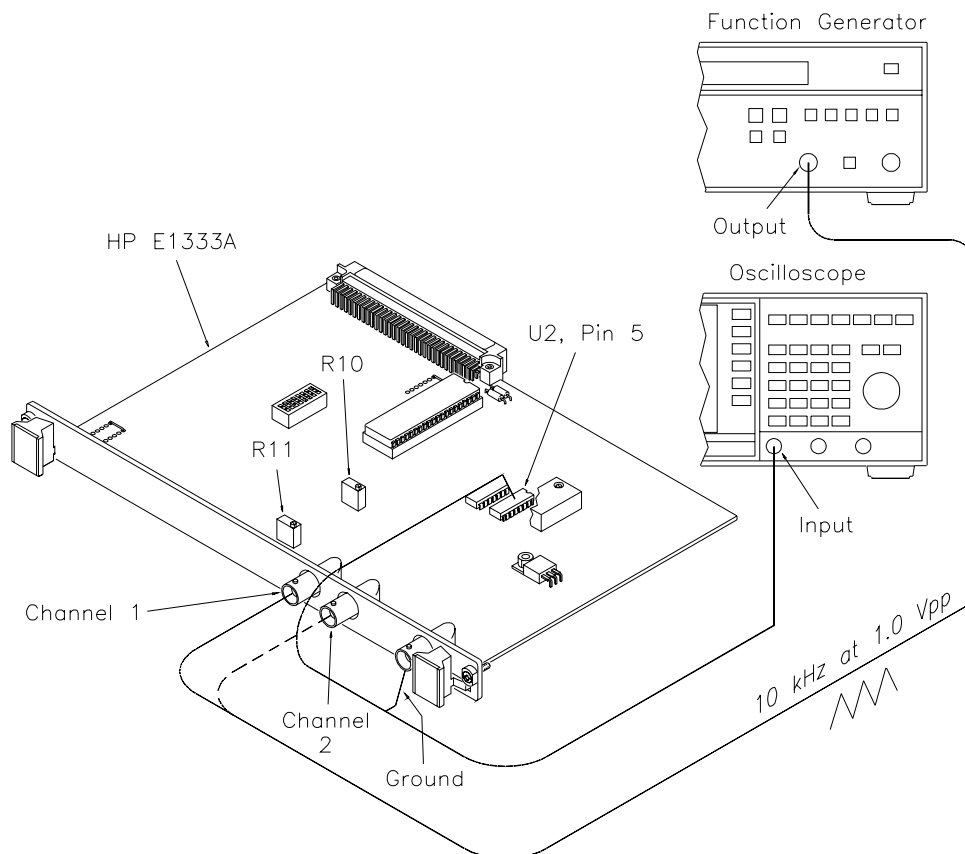

Figure 5-2. Trigger Level Zero Adjustments
1. For Channel 1 trigger level zero adjustments, connect an oscilloscope between U2 pin 5 and the HP E1333A input Common, and connect the HP 3325A output to Channel 1 (see Figure 5-2).